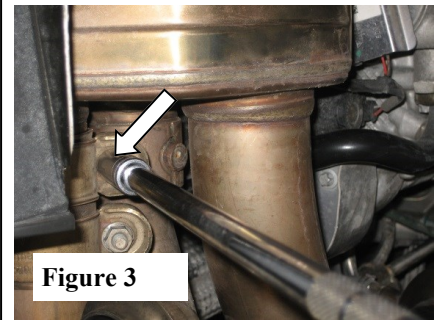

Figure 3
3. Loosen the original band clamp on both sides. (See Fig. 3)